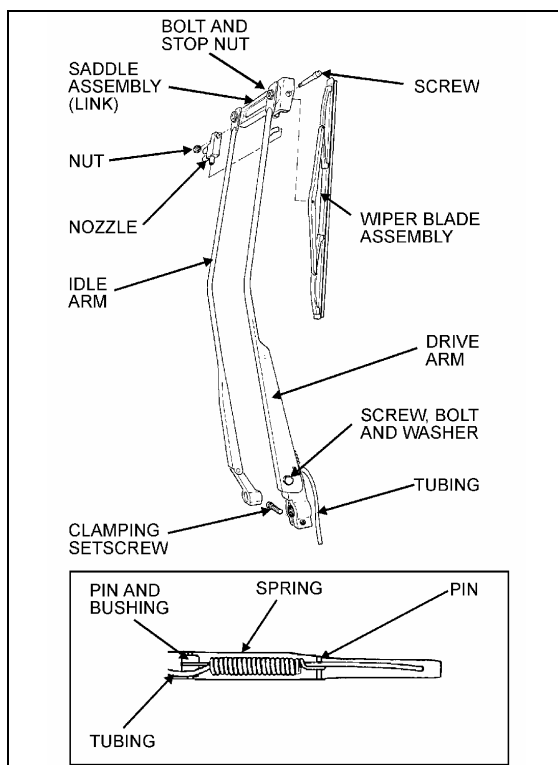

FIGURE 34: LOWER WINDSHIELD WIPER
1. Remove the cap nuts from the wiper arm pivot shafts (Fig. 34 and 35);
2. Disconnect the windshield washer tubing at the base of the wiper arm (Fig. 34 and 35);
3. Lower windshield wiper (Fig. 34): loosen the clamping set screw securing the drive arm to the knurled arm pivot shaft;
4. Remove the drive and idler arms (Fig. 34) or arm assembly (Fig. 35);
5. Relocate the drive arm (Fig. 34) or arm assembly (Fig. 35) on its knurled pivot shaft to obtain the desired position;
6. Lower windshield wiper (Fig. 34). Tighten the clamping set screw to secure the drive arm to the knurled shaft. Fit the idler arm onto the idler pivot shaft.
8. Connect the windshield washer tubing at the base of the wiper arm (Fig. 34 and 35);
9. Check the adjustment on a wet windshield (Fig. 34 and 35).
1. Remove the cap nuts from arms (Fig. 34 and 35);
4. Lower windshield wiper (Fig. 34): loosen the clamping set screw on the base of the drive arm;
5. Remove the wiper arm assembly (Fig. 34 and 35).
1. Make sure the wiper motor is in the stop position. Lower windshield wiper (Fig. 34): position the wiper arm on the knurled drive shaft and idler arm on the pivot shaft. Upper windshield wiper (Fig. 35): position the wiper arm assembly on the knurled drive shaft;
4. Lower windshield wiper (Fig. 34): Tighten clamping nut onto the drive arm. Install cap nuts onto the arm shafts (Fig. 34 and 35);
5. Connect the windshield washer tubing at the base of the wiper arm (Fig. 34 and 35);
6. Check the adjustment on a wet windshield (Fig. 34 and 35).